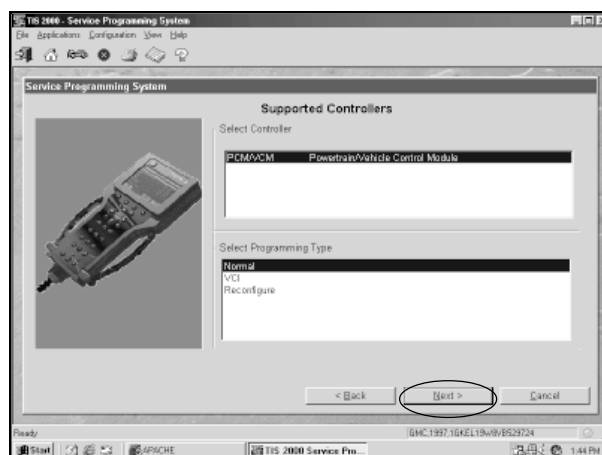

Figure I-47, Supported Controllers screen
7. The PC will display a screen asking you to select the type of programming to be performed: normal or VCI (Figure I-47). **Select** normal. If you select VCI, a series of screens will direct you through the process. **Select** Next.